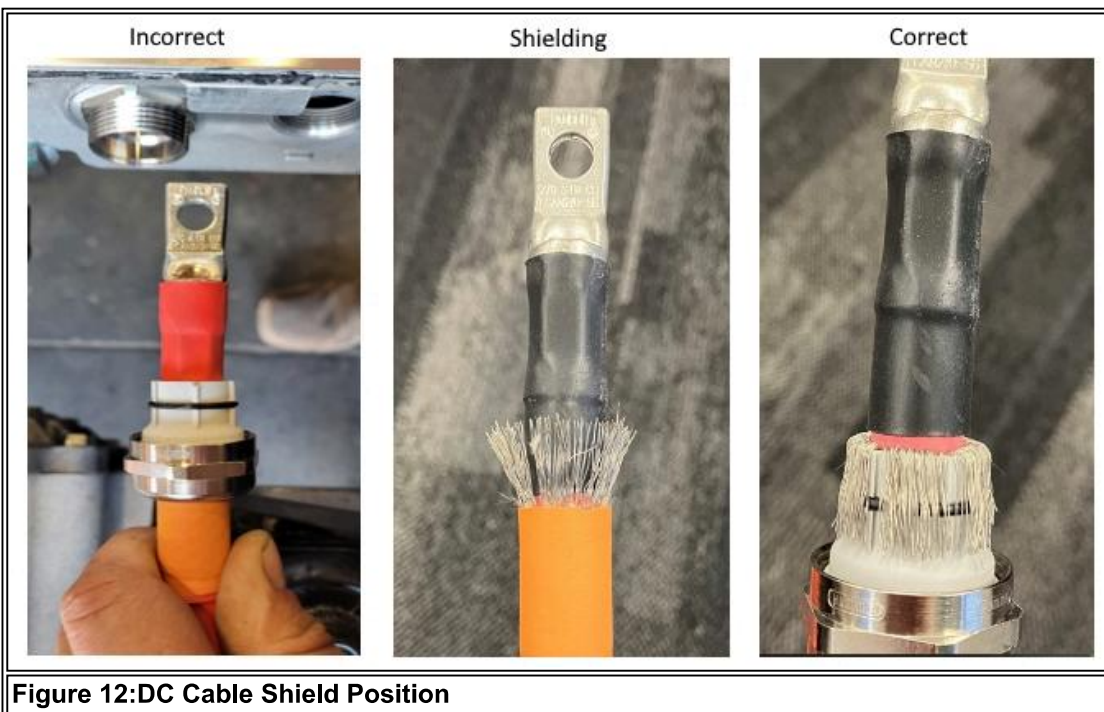

Figure 12:DC Cable Shield Position
8. Correct cable shield position is shown in Figure 12 . The shielding strands must be pulled back over the tapered compression nut as shown before assembling in the TPIM.